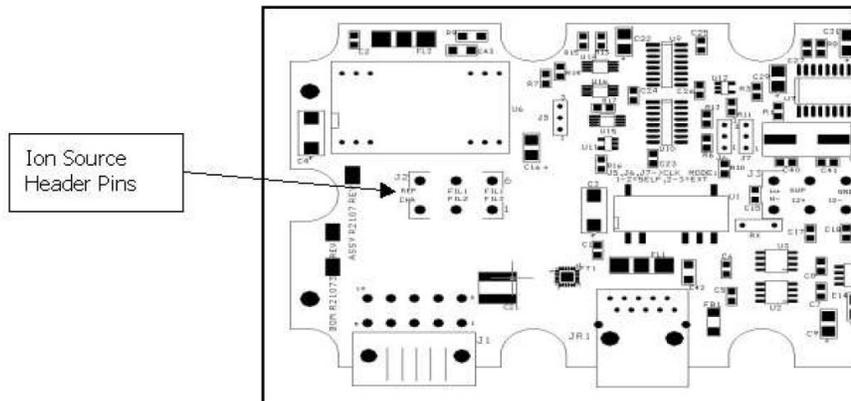

Figure 2-10. Ion source header pin schematic
24. On the PCB, use the resistance meter to verify an open circuit between any two of the six ion source header pins (except FIL-1 to FIL-1 and FIL-2 to FIL-2 which should be 0.3 Ohms or less). Also verify an open circuit between the body of the spectrometer and any of the ion source header pins (Figure 2-10). If there is continuity (short circuit) at any of the points, remove the header and inspect for shorting.